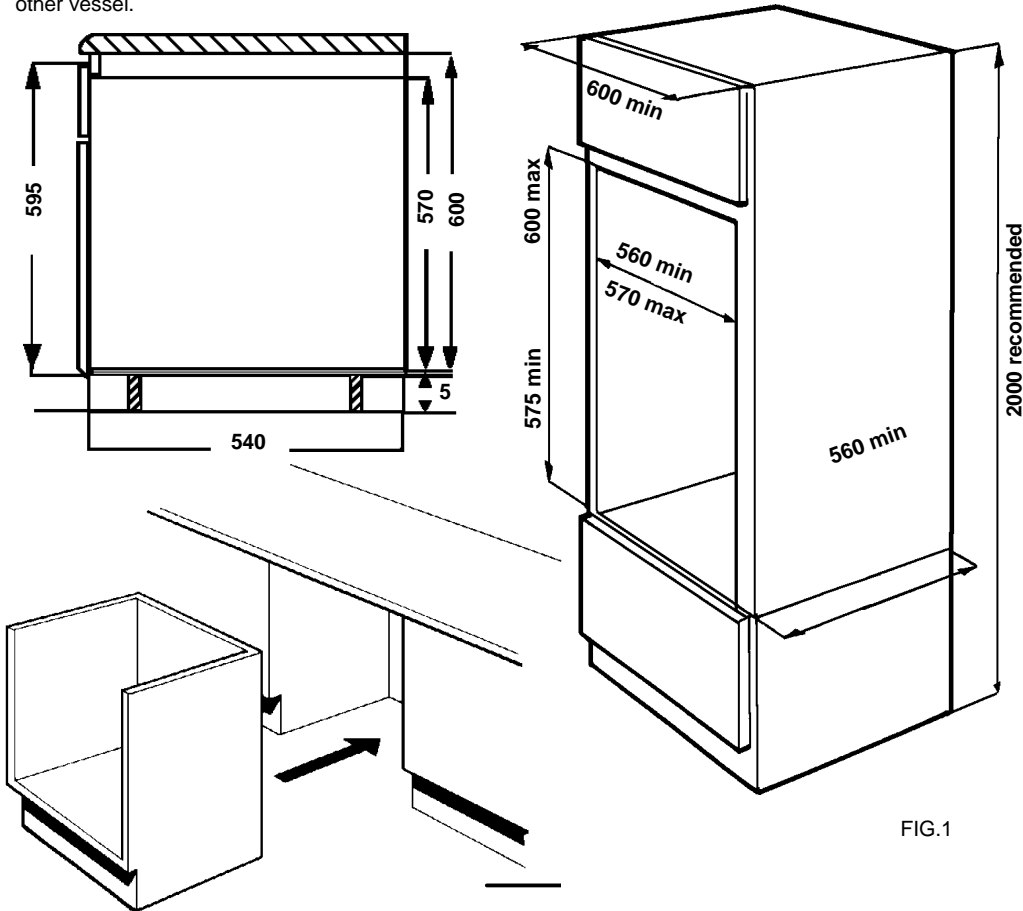

FIG.1
It is essential that there is a minimum clearance of 3mm between the top surface of the appliance and the inside top of the cabinet. The unit must be fitted into a cabinet conforming to Fig. 1. The following internal dimensions are particularly important.
- 3 Fit the cabinet as Fig.1, make sure that it is level.
- 2 Fit cabinet as Fig. 1, making sure that it is level.